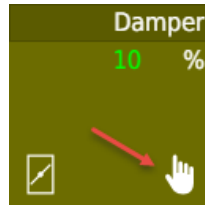

Figure 159: Manual indication
**Manual Indication:** This “Hand” icon is only shown if one or more functions are not in the “Auto” mode set by the visualization. A click on this icon opens the “Manual List” that is an usual alarm list regarding all functions that are not in “Auto” mode. Please refer to the L-VIS\_User\_Manual for more information about operating the alarm list visualization. For a better overview the “Hand” icon is also shown on the relating top level tiles of the regarding functions on the “Status Overview” page. An example of a damper actuator that is set to manual is shown in Figure 159.